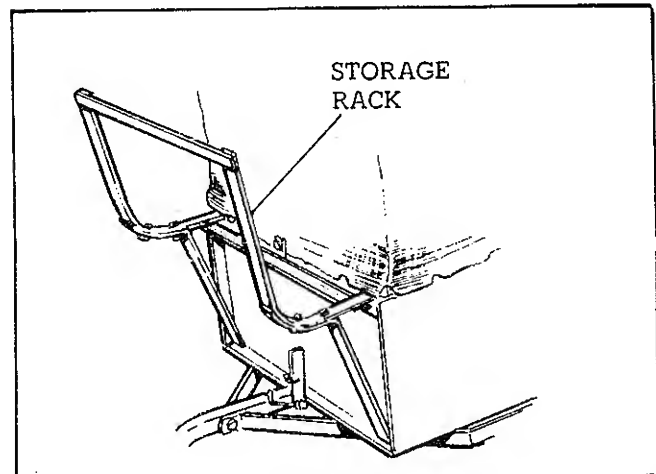

FIGURE 14
4. The storage rack is assembled and hung onto the front of the cart as shown. No hardware for mounting is required. (Figure 14).